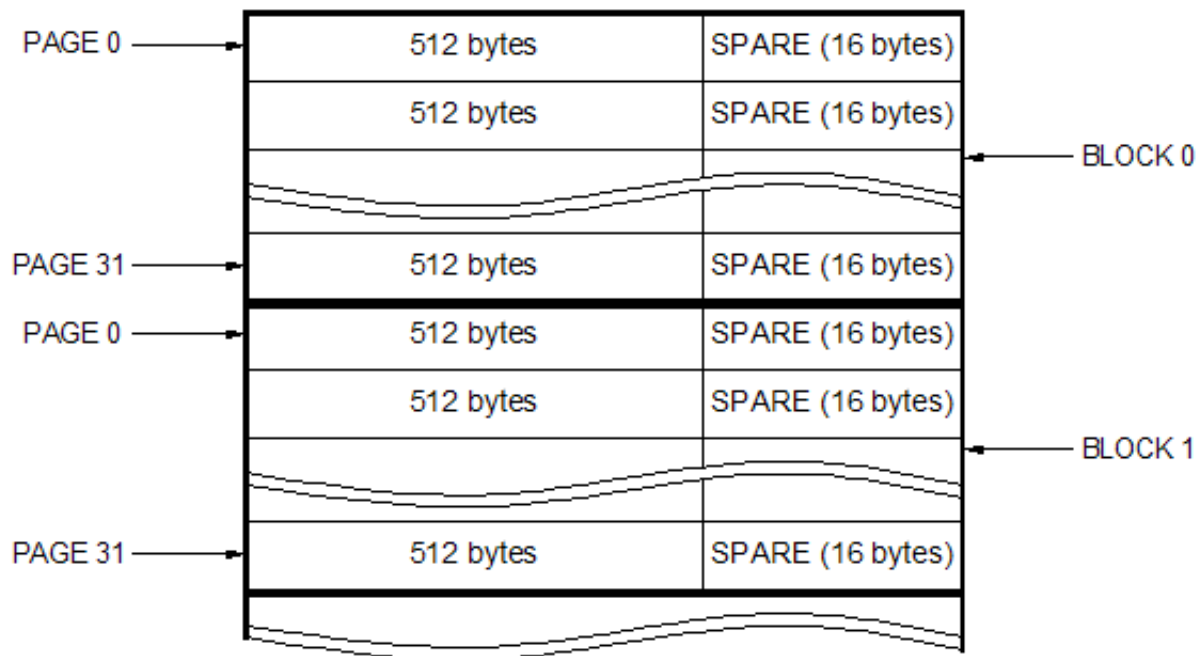

Fig. 8-1. Small Page SLC NAND Flash Structure
The external SLC NAND Flash used on the phyCORE-LPC3250 is a "small page" device consisting of "blocks" and "pages" of data. The NAND Flash is divided into blocks which are 16kB in size. Each block consists of 32 pages which are 512 bytes in size + 16 bytes of "spare" area. The spare area is used to (1) store bad block information, and (2) store error correction data. Unlike NOR Flash, NAND Flash can contain "bad blocks" within the Flash device. These are blocks which 1 or more bits within the block can no longer be reliably written and read. Therefore the entire block is marked bad and should not be used. NAND Flash devices are shipped with BLOCK 0 guaranteed to be a good block. Each individual NAND device may contain 0 or more bad blocks from the manufacturer, and more bad blocks may develop over time through write/erase operations. Bad blocks in new NAND devices are marked by the manufacturer by writing a value other than 0xFF to the 6th byte of the spare area of the first page of each block. For example, if the 6th byte of the spare area of block 12, page 0 did not contain 0xFF, this would indicate it is a bad block. Figure 8-1 shows a graphical representation of the organization of the NAND Flash structure.